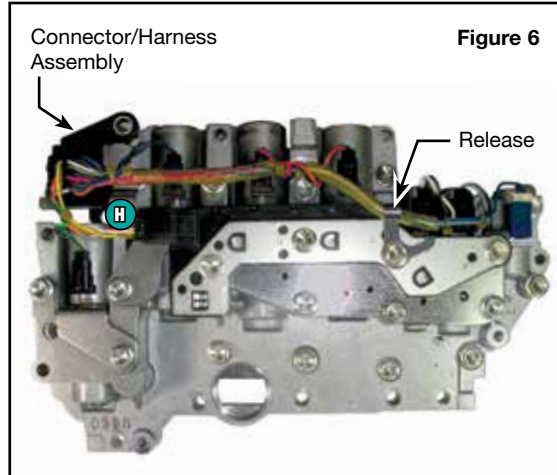

Figure 6
- Disconnect case connector from all seven solenoids. Remove case connector assembly retaining bolt, bracket and connector/harness assembly (**Figure 6**).
- Reinstall case connector assembly retaining bracket, bolt and connector/harness assembly (**Figure 6**). Attach wire harness from bracket and connect to all seven solenoids.